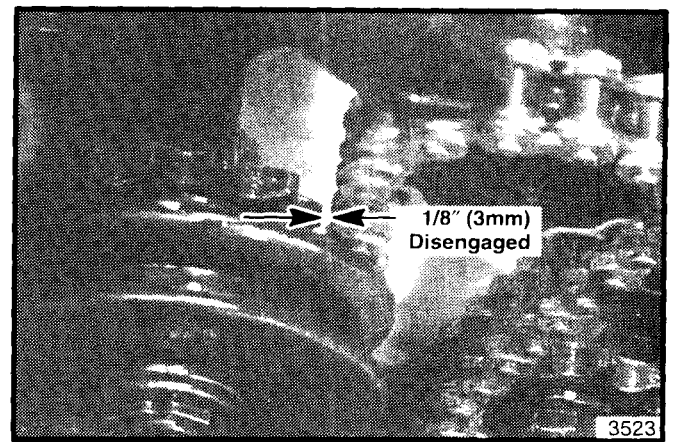

Figure 31. Pulley Sprocket Clearance
4. To make sure the pulley sprocket fully disengages the chain, raise the reel, and check for clearance of approximately 1/8" (3 mm) between the sprocket and chain (see figure 31).